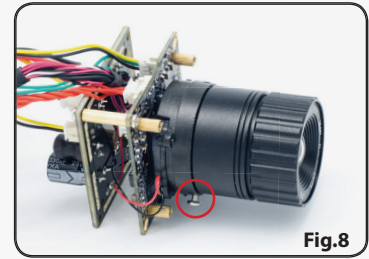

Fig.8
Step 6: Remove the screw securing the lens. Grab the lens at the bottom and unmount the lens by turning it counter clockwise (Fig. 8).